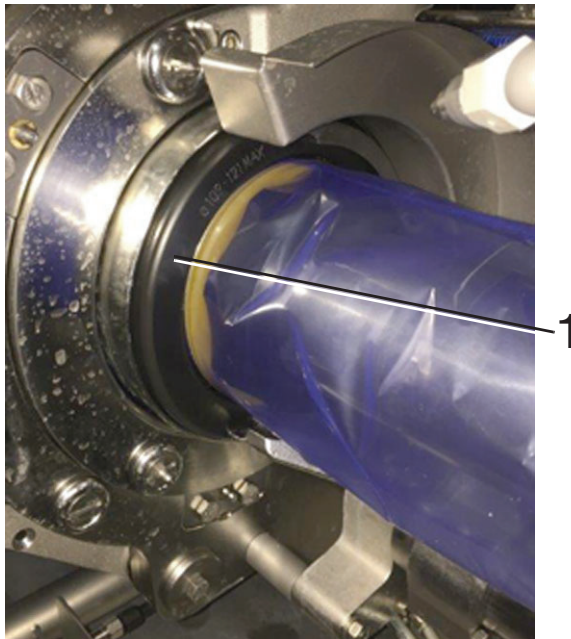

Fig. 1-16 1 “Inner brake protective ring”
There is a risk of body parts, especially fingers, being crushed or severed in the closing and separator area. When coupled with a TSA and using an inner brake, the “inner brake protective ring” prevents anyone reaching into the closing and separator area. The protective ring (1) is inserted into the casing brake holder instead of the casing brake. (Fig. 1-16)